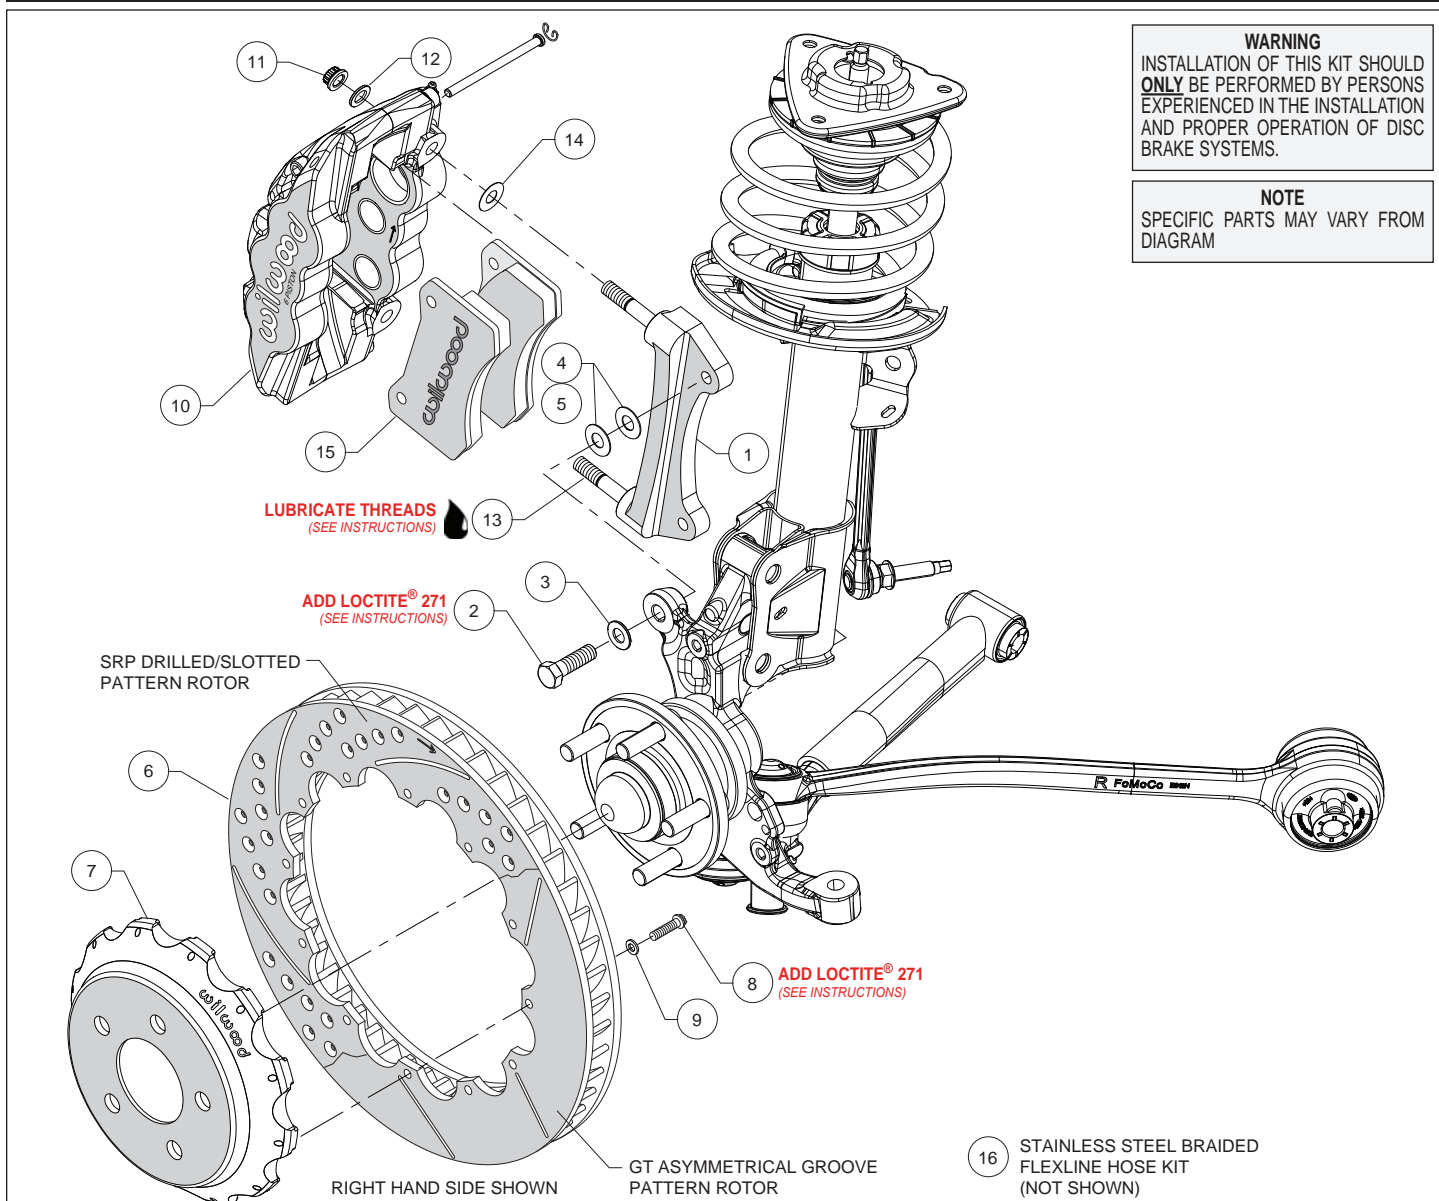
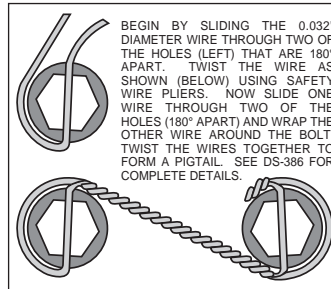

Figure 1. Typical Installation Configuration
Figure 3. Safety Wire Diagram
Assembly Instructions (numbers in parenthesis refer to the parts list and Figure 1 on the preceding pages):
- The caliper mount bracket (1) should initially be installed with clean, dry threads on the mounting bolts. Orient the bracket, as shown in Figure 1 and Photo 1, and install using bolts (2) and washers (3). Initially place two .033" thick shims (4) on each bolt between the bracket and upright, Figure 1. Temporarily tighten the mounting bolts. **NOTE: The bracket must fit squarely against the mount bosses on the upright.** Inspect for interference from casting irregularities, machining ridges, burrs, etc. Later, after the caliper alignment has been checked, the mount bolts will be secured using red *Loctite*[®] 271.
- Orient the rotor (6) and the hat (7) as shown in Figure 1 and Photo 2. Attach rotor to hat using bolts (8) and washers (9). Using an alternating sequence, apply red *Loctite*[®] 271 to the threads, and torque to 155 **in-lbs**. For an added measure of security, the bolts may be safety wired using standard 0.032 inch diameter stainless steel safety wire as shown in Figure 3. Refer to Wilwood's data sheet DS-386 (available at www.wilwood.com/Pdf/DataSheets/ds386.pdf) for complete safety wire installation instructions.
- NOTE: This kit contains distinct right and left hand calipers that must be mounted in a specific direction, as described below.** Lubricate the caliper mounting studs (13) with lightweight oil. Initially place one .030" thick shim (14) on each stud between the caliper and the bracket, as shown in Figure 1 and Photo 4. Mount the caliper (10) onto the bracket (1) using lock nuts (11) and washers (12), Figure 1. Temporarily tighten the lock nuts. Ensure that the caliper is mounted so the largest pistons are at the rotor exit end of the caliper, in relation to the direction of the rotor. View the rotor through the top opening of the caliper. The rotor should be centered in the caliper, Photo 5. If not, adjust by adding or subtracting shims (4 and/or 5) between the bracket and the upright. Always use the same amount of shims on each of the two mounting bolts. Once the caliper alignment is correct, remove the bracket mounting bolts one at a time, apply red *Loctite*[®] 271 to the threads, and torque to 60 ft-lbs.
- Remove the two pad retaining pins from the caliper (10) by carefully popping out the pin retaining clips and sliding out the pins. Insert the brake pads (15) into the caliper from the bottom, Figure 1 and Photo 6. With the friction material facing the rotor, secure the brake pads in place with the pad retaining pins and clips, Photo 7. Reinstall the caliper onto the caliper mounting bracket and temporarily tighten the lock nuts. Check that the top of the brake pad is flush with the outside diameter of the rotor, Photo 8. If not, adjust by adding or subtracting shims (14) between the caliper and the bracket. After the caliper pad height is set, torque the caliper lock nuts (11) to 47 ft-lb.